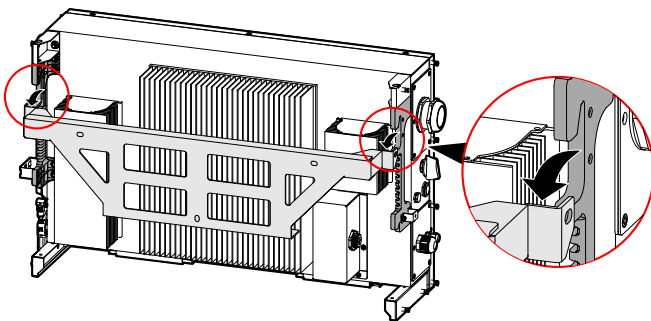

Figure3-22 Hang the hybrid inverter to wall-mounted bracket
2. Hang the hybrid inverter to wall-mounted bracket, as shown in Figure3-22.